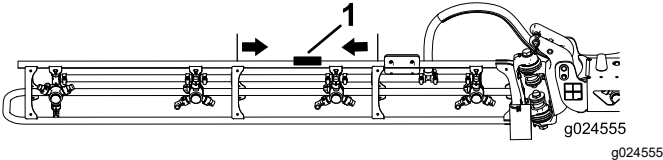

Figure 29
1. Locate the middle of an outer boom, between the brackets, as shown in Figure 29.